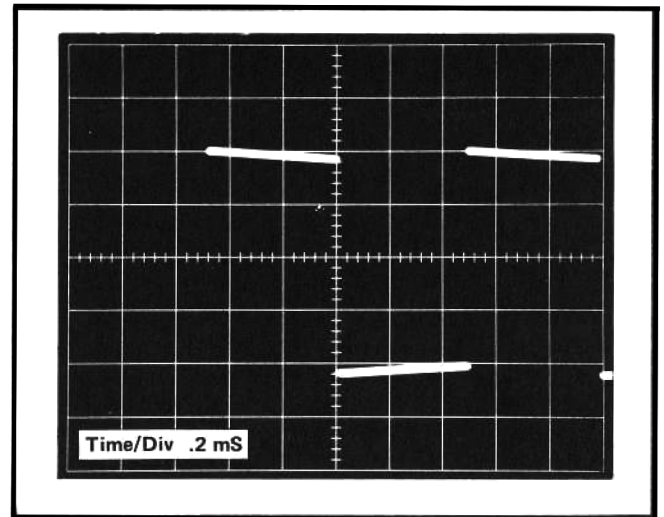

Fig. 5-5. LF Comp correctly adjusted using P6021 probe for 1 minor division of tilt in the first 500 μ s.
- ## 8. Check/Adjust Low Frequency Compensation ①
- b. CHECK—For 0.2 division of tilt in the first 500 μ s of the square wave. See Fig. 5-5.